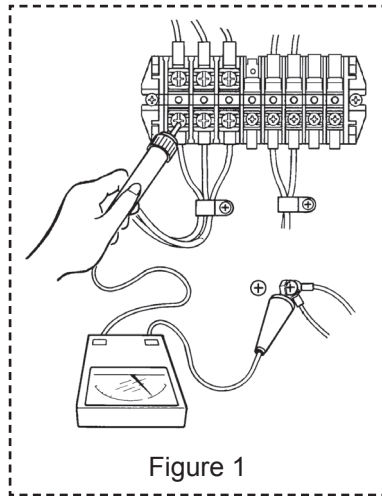

Figure 1
- ❶ Turn off the main power supply of the indoor and outdoor units.
- ❷ Turn off the power switch in the terminal box of the outdoor unit.
- ❸ Connect the insulation tester between each of the power terminals of the R phase, O phase, and S phase and the ground terminal on the power terminal block (TBI) in the terminal box, and take measurements. (Figure 1)